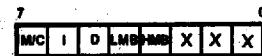

Figure 21. Cache Control Register
**Cache Control Register.** The operation of the on-chip memory is controlled by an 8-bit Cache Control register (Figure 21) that is accessed using a load control instruction. This register contains five control bits.